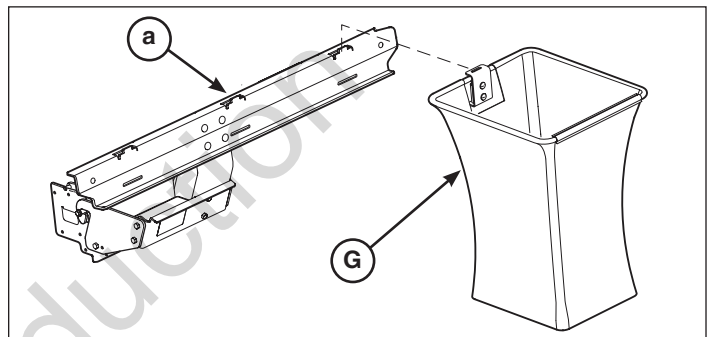

Figure 4
2. Attach the catcher bags (**G**, Figure 4) to the tabs (**a**) on the cross support.